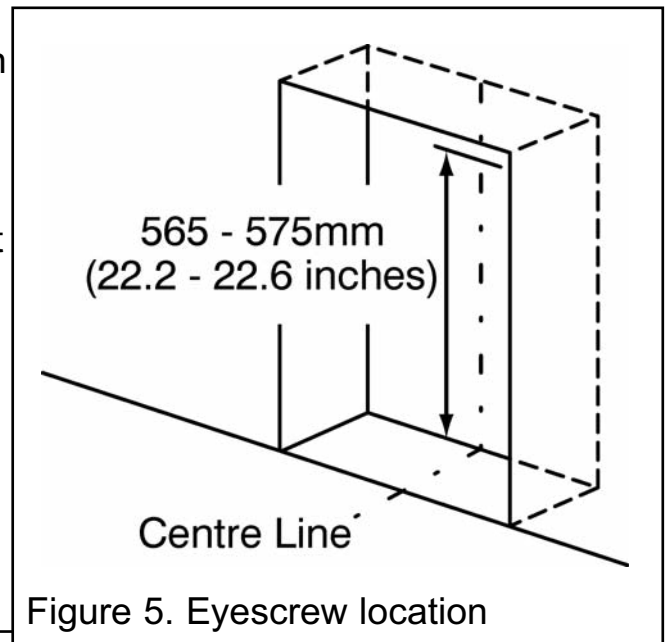

Figure 5. Eyescrew location
2. Mark the eyescrew position on the centre line at the back of the fireplace opening and at a height of 565-575mm (See figure 5).